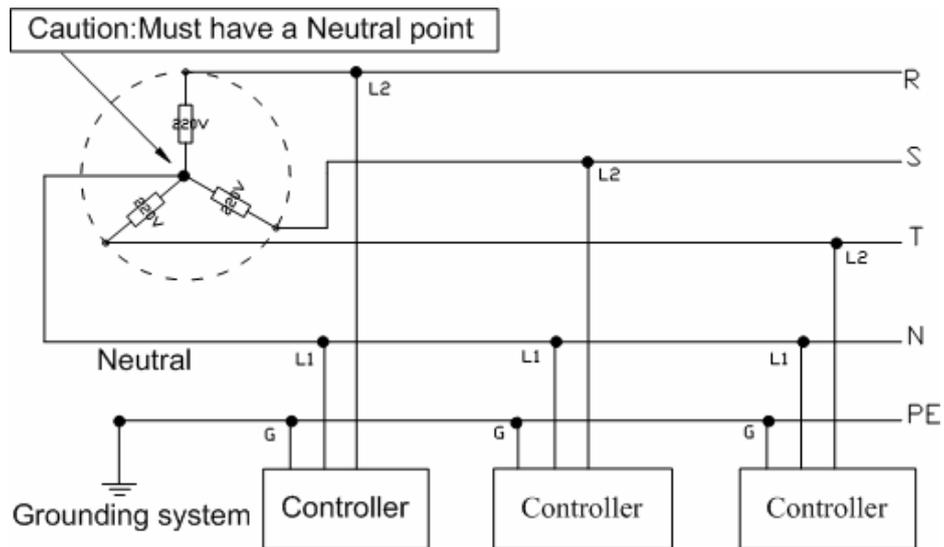

图 3-2
**A 1Φ/220V power from a 3Φ/380V Power source Connection (See Fig.3-2):**